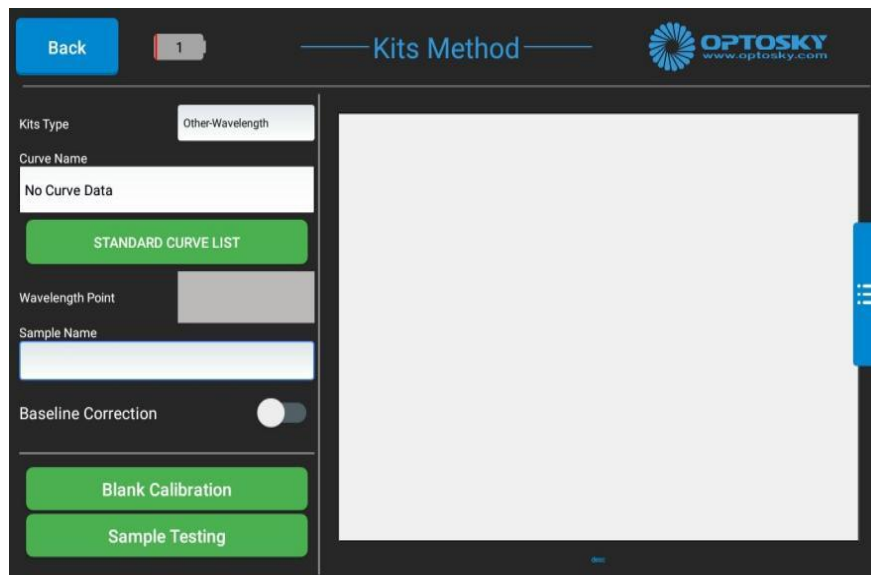

Figure 9: Kit detection interface
1. Open the main interface of the kit method . Enter the kit detection interface, as shown in Figure 9.